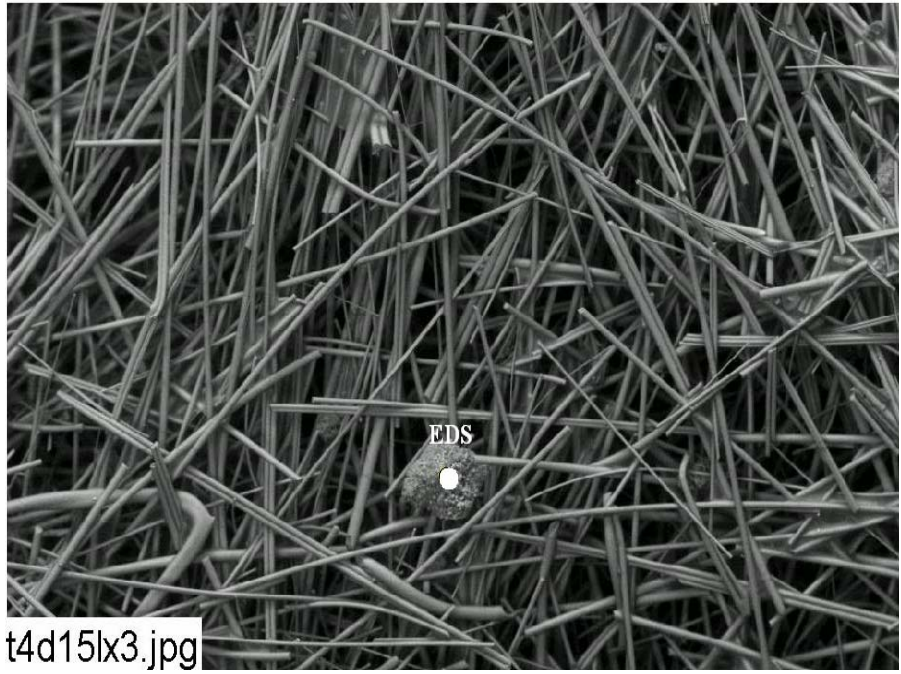
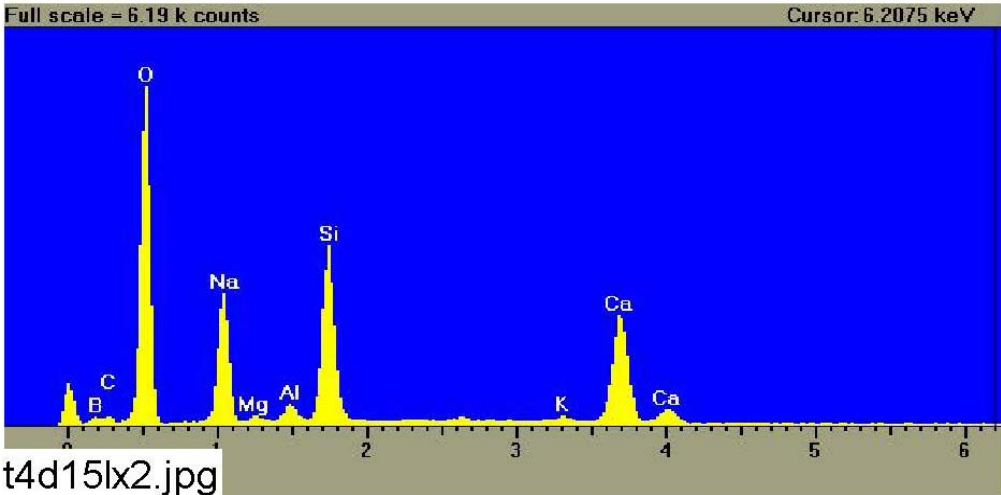

Figure B1-1. Annotated environmental SEM image magnified 100 times for a Test #4, Day-15 exterior low-flow fiberglass sample. (t4d15lx3.jpg)
Figure B1-2. EDS counting spectrum for the particulate deposit on fiberglass shown in Figure B1-1. (t4d15lx2.jpg)
- Figure B1-1. Annotated environmental SEM image magnified 100 times for a Test #4, Day-15 exterior low-flow fiberglass sample. (t4d15lx3.jpg)..... B1-4
- Figure B1-2. EDS counting spectrum for the particulate deposit on fiberglass shown in Figure B1-1. (t4d15lx2.jpg) B1-4
| Image: | t4d15lx3 | 100 × | ESEM annotated image | Figure B1-1 |
| EDS: | t4d15lx2 | | EDS image on particles in t4d15lx3 | Figure B1-2 |